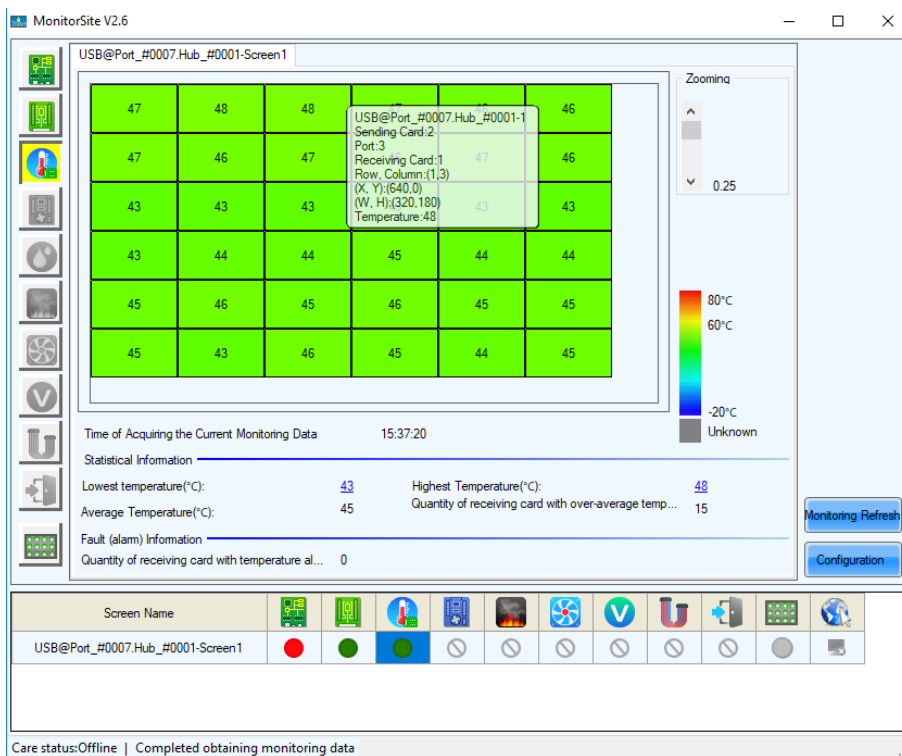

Figure 100: Start Screen Monitoring Temperature
Step 2) Click the **Temperature** button to switch to the Monitoring view for the temperature (see Figure 100).